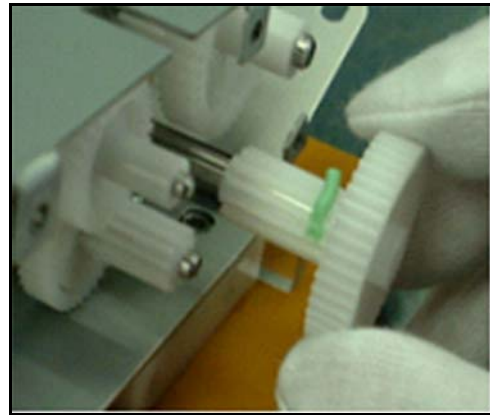

Figure 11
13. Pull Gear C off of its spindle to remove it (see Figure 11).